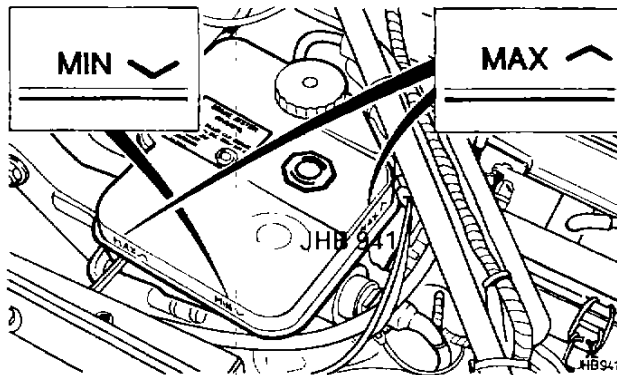

Fig. 1
Correct brake fluid level is essential for the efficient operation of the brake system. There are two 'MAX' marks on the reservoir. The brake fluid level must be at the highest 'MAX' level on the reservoir (Fig. 1).
5. Check brake fluid level. Fluid level must be at the highest 'MAX' level on the reservoir (Fig. 1). Top up using the recommended brake fluid.